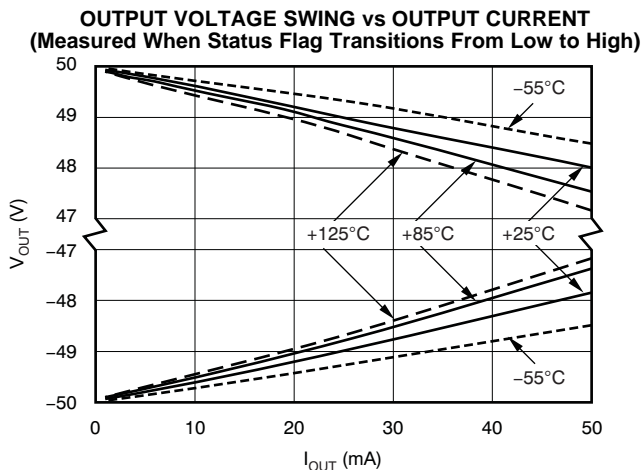
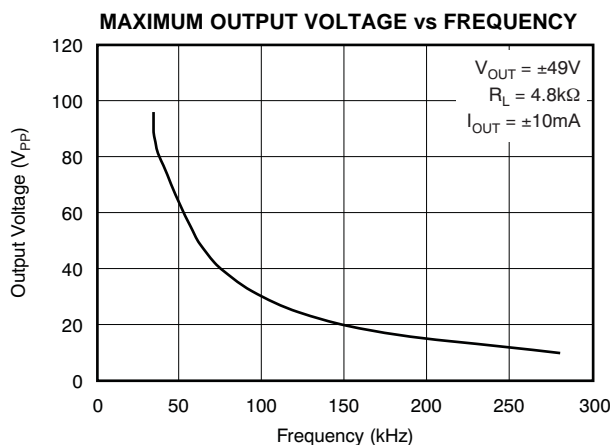
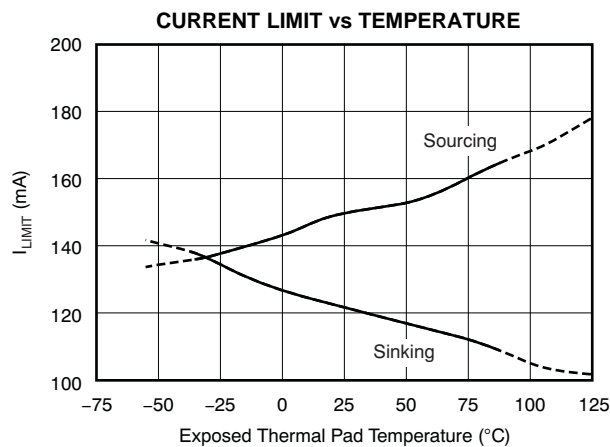

Figure 11.
Figure 12.
Figure 24.
(5) See Typical Characteristic curves.(6) See typical characteristic curve, *Maximum Output Voltage vs Frequency* (Figure 12).(7) See the Applications Information section, Settling Time.(8) Supplies reduced to allow closer swing to rails due to test equipment limitations. See typical characteristic curve *Total Harmonic Distortion + Noise vs Temperature* (Figure 30 and Figure 31) for additional power levels.(9) See typical characteristic curve, *Output Voltage Swing vs Output Current* (Figure 11).(10) Measured using low-frequency (<10Hz) $\pm 49V$ square wave. See typical characteristic curve, *Current Limit vs Temperature* (Figure 24).(11) Measured using Figure 1.(12) 100k Ω pull-up resistor to (V+). E/D common to (V-). Status flag indicates an over temperature or over-current condition.(13) See Typical Characteristic curves for current limit behavior.